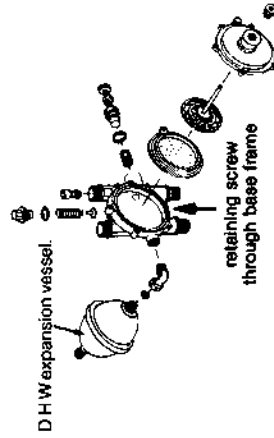

Fig. 38
- See fig. 38
- 8.18.5 Remove manifold (fig. 38) gives details of further disassembly.